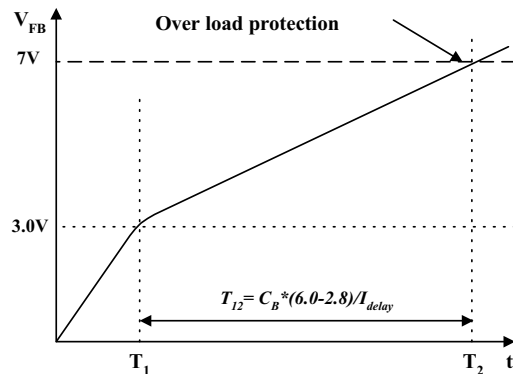

Figure 16. Overload Protection
3.4 Overload Protection (OLP): This protection is applied only for PWM operation. Overload is defined as the load current exceeding its normal level due to an unexpected abnormal event. In this situation, the protection circuit should trigger to protect the SMPS. However, even when the SMPS is in the normal operation, the overload protection circuit can be triggered during the load transition. To avoid this undesired operation, the overload protection circuit is designed to trigger only after a specified time to determine whether it is a transient situation or a true overload situation. Because of the pulse-by-pulse current limit capability, the maximum peak current through the MOSFET is limited, and therefore the maximum input power is restricted with a given input voltage. If the output consumes more than this maximum power, the output voltage (V_o) decreases below the set voltage. This reduces the current through the opto-coupler LED, which also reduces the opto-coupler transistor current, thus increasing the feedback voltage (V_{FB}). If V_{FB} exceeds 3V, D1 is blocked and the OLP current source starts to charge C_B slowly. In this condition, V_{FB} continues increasing until it reaches 7V, when the switching operation is terminated, as shown in Figure 16. The delay time for shutdown is the time required to charge C_B from 3V to 7V with $5\mu A$ as
required, external soft-start circuit for PFM operation is used as shown in Figure 16.